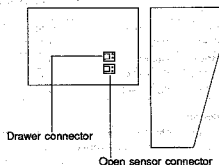

Fig. 3-18
- ③ Replace the main PWB.
- ④ Solder the 2-pin connector cable (0AGQCW230MKSS) to the micro switch as shown Fig.3-18.